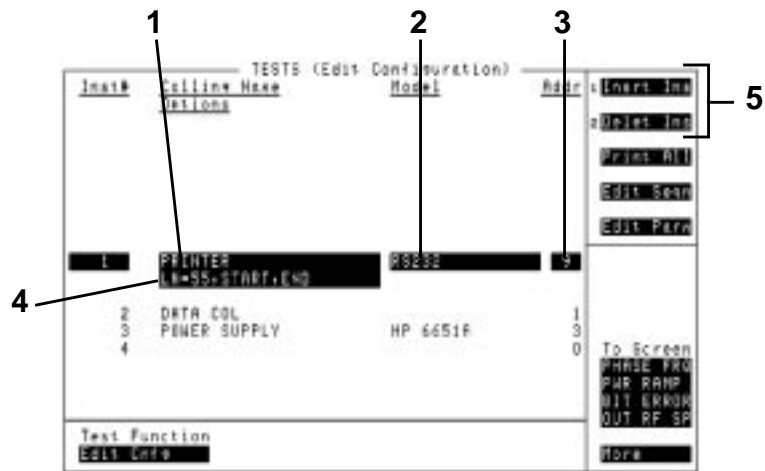

Figure 8-17 Instrument-Configuration Screen
- 1 Select the front-panel **TESTS** key, and then the **Test Function Edit Cnfg.** A configuration screen similar to that shown in Figure 8-17 on page 8-37 appears.
- 2 Select the **Calling Name** field and enter the instrument's name in upper-case letters. For example, **PRINTER, POWER SUPPLY, DATA COLLECTION**, and so forth. Refer to item (1) in Figure 8-17 on page 8-37.
- 3 Select the **Model** field and enter the instrument's model number. There is no specific syntax for entering model numbers into this field. Refer to item (2) in Figure 8-17 on page 8-37.
- 4 Select the **Addr** (address) field and turn the knob to enter the last two digits of the instrument's GPIB address. Refer to item (3) in Figure 8-17 on page 8-37. (The RS-232 address must be 9, and the Data Collection address must be 1.)
- 5 Select the **Options** field (refer to item (4) in Figure 8-17 on page 8-37) and enter the instrument's option number(s) if any. This field may be left blank, or otherwise may include other calling name options, for example:
- 6 Press the **Insrt Ins** field or **Delet Ins** field as needed or turn the knob to insert or delete as many instruments as needed. Refer to item (5) in Figure 8-17 on page 8-37.